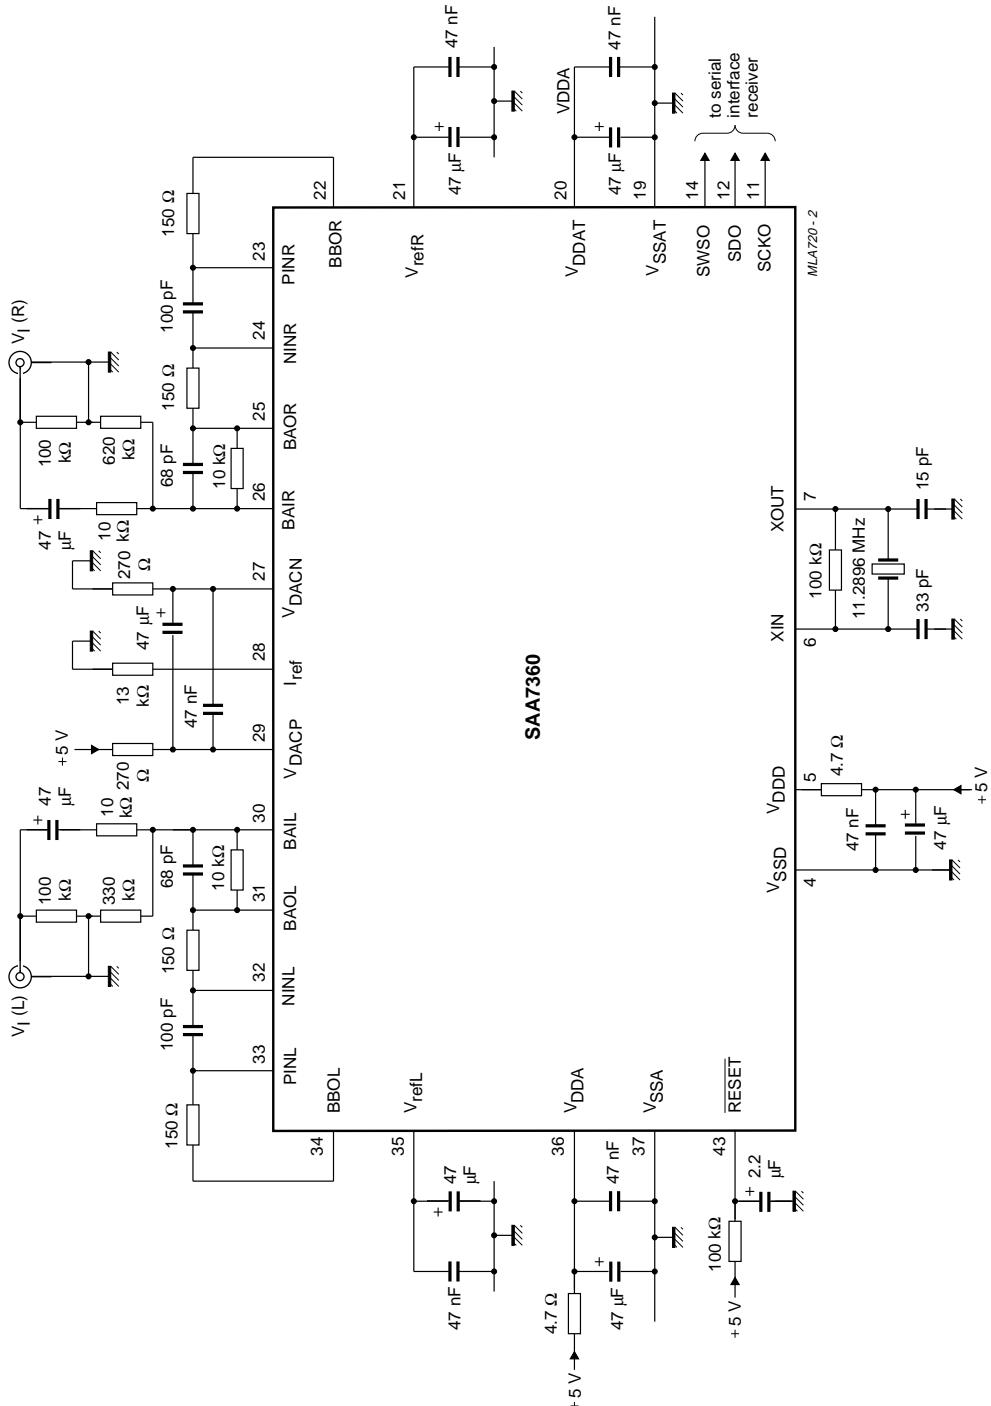

Fig.7 Application diagram.
13. Device measured with external components as shown in recommended application diagram (see Fig.7).